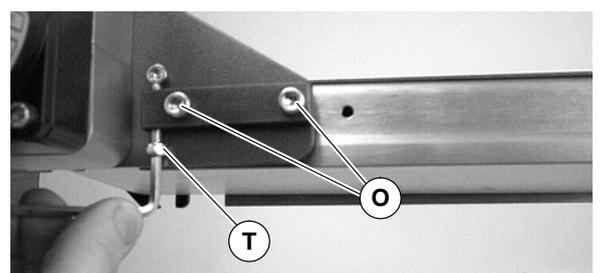

Figure 9
11. Tighten timing belt tensioner screw (T of Figure 9) to 1.7 Nm.